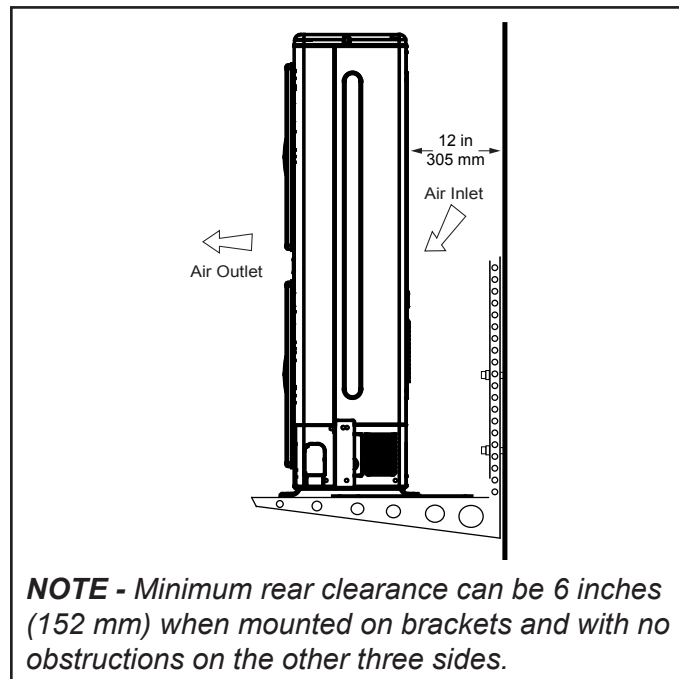

Figure 2. Unit on Wall-Mounted Brackets
- Use lag bolts or equivalent to secure the outdoor unit to the wall-mounted brackets. Figure 2.